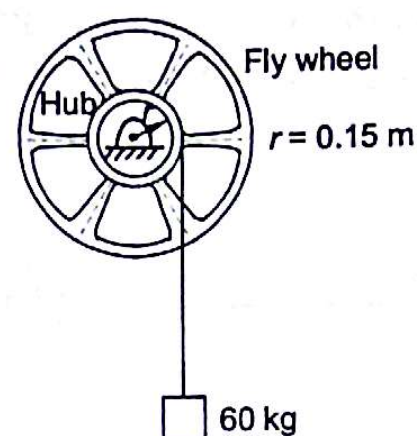

Fig. 18.15
- 18.4 A flywheel of mass 160 kg is shown in the Fig. 18.15. A rope is wrapped around the hub of the flywheel. Hub radius is 0.15 m. A stationary weight of mass 60 kg descends 1 m in 5 seconds. What is the radius of gyration of the flywheel?